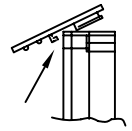

Figure 8
8. Place hook on underside of cap under the front edge of the power center and slide toward rear. (Figure 8)